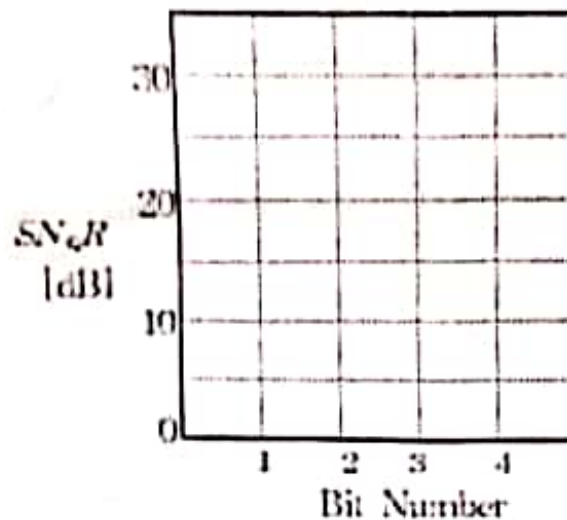

Figure 5-23. signal-to-quantization noise ratio against bit number
(36) Draw the signal-to-quantization ratio (measuring and theoretical value) on the number of word bits provided in table 5-4 into figure 5-23.